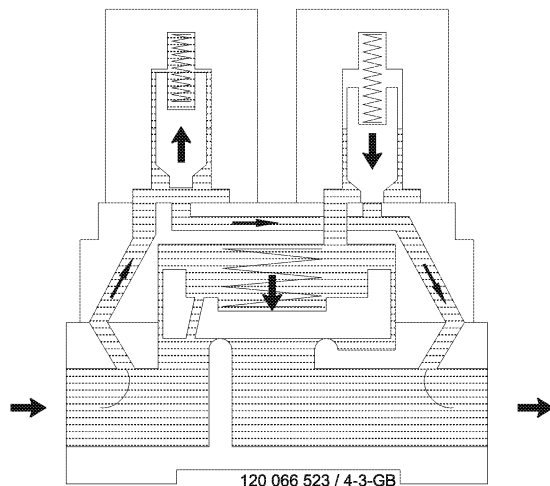

Fig. 3:
3. Throttling the valve (Fig. 3)